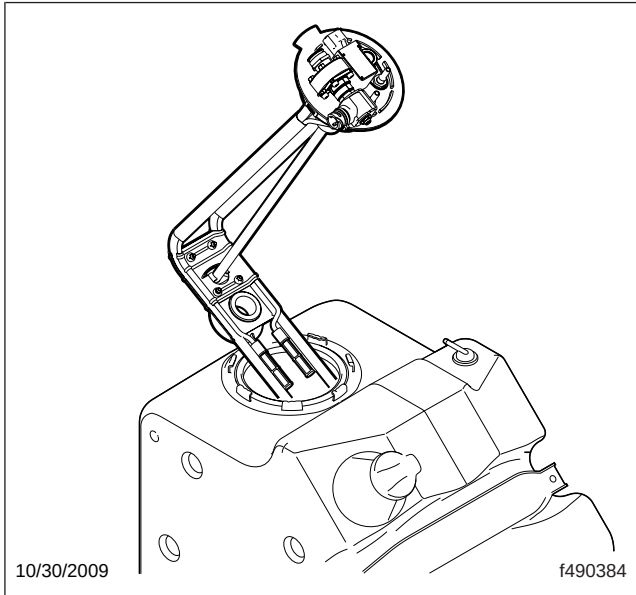

Fig. 2, Header Unit Tilt
4. Remove the header unit from the tank by pulling the assembly straight up, then tilting it to pull the horizontal end clear of the tank; see Fig. 2.